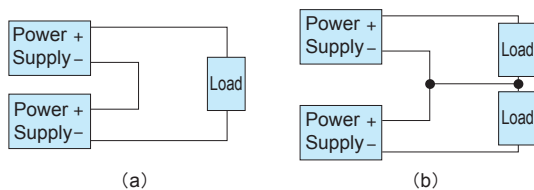

Fig.2.1 Examples of connecting in series operation
- Units can be operated in series when connected as shown in Fig. 2.1.
- Units can be operated in parallel when connected as shown in Fig. 2.1.